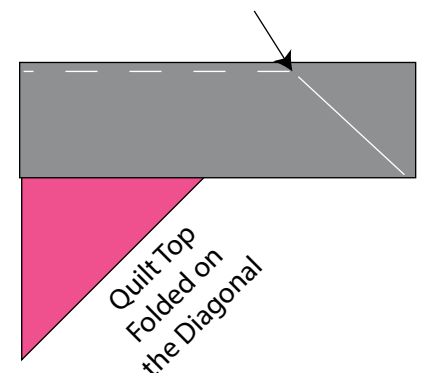

Fig. 24
15. Sew 2" x 68 ½" Fabric H strip to each side of the Center Block. Sew (1) 2" x 55 ½" Fabric H strip to the top and to the bottom of the Center Block.
16. Center (1) 6 ½" x 87" Fabric N strip on (1) side of the Center Block and pin in place. Start sewing the strip a ¼" from the top edge of the block and stop a ¼" from the bottom edge. **DO NOT TRIM THE EXCESS.** Repeat with the opposite side.
17. Repeat Step 16 to sew (1) 6 ½" x 71" Fabric N strip to the top and to the bottom of the Center Block, making sure to stop and start ¼" away from each end of the block. To miter each corner, fold the Center Block on a diagonal, wrong side together. This should line up the strips from adjacent sides (Fig. 24).
18. Starting at the sewn seam (represented by the arrow in Figure 24), draw a 45-degree line to the edge of the fabric. Sew on the drawn line. Trim the excess fabric leaving a ¼" seam. Repeat this step with the remaining corners to make the quilt top.